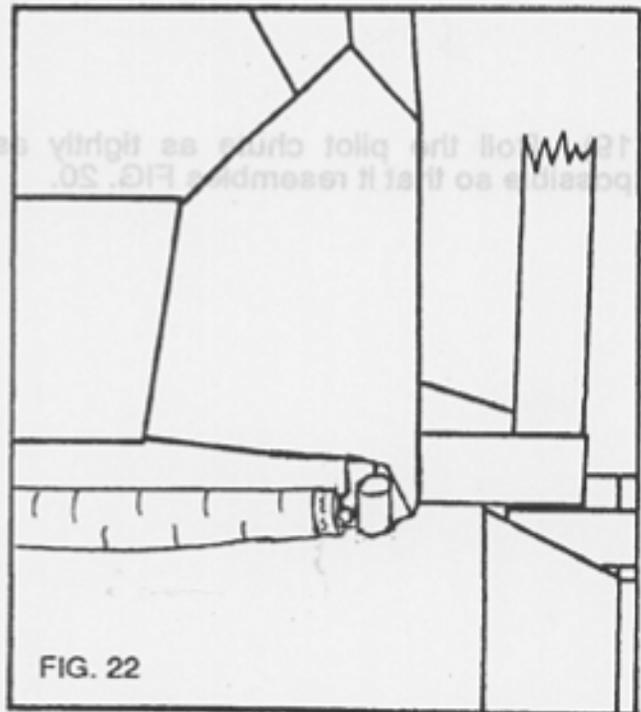

FIG. 22
20) Using one or two fingers, push the bridle into the pouch a little at a time until none of the bridle is exposed. Then stuff the rolled pilot chute into the pouch until only the handle is visible at the mouth of the pouch. FIG. 21 shows the pilot chute in the pouch on the right legstrap; FIG. 22 shows the pilot chute in the pouch on the bottom of the container. Do not push the handle all the way into the pouch; that makes it difficult to find when you need it.